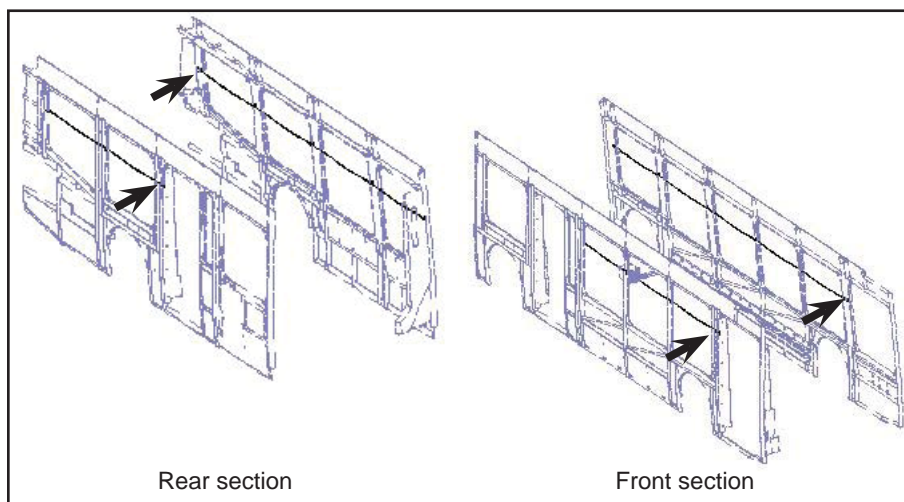

Figure 2 - Next Stop Request Switch Location
1.2. Locate one of the four next stop request switches. See Figure 2.